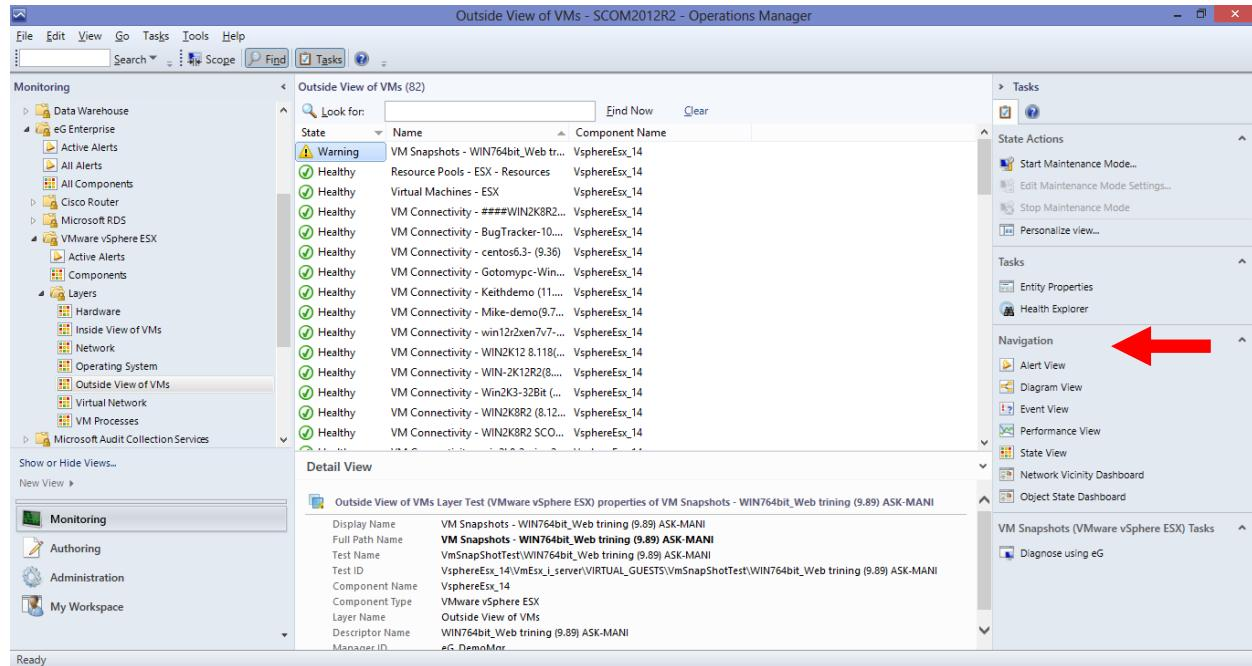
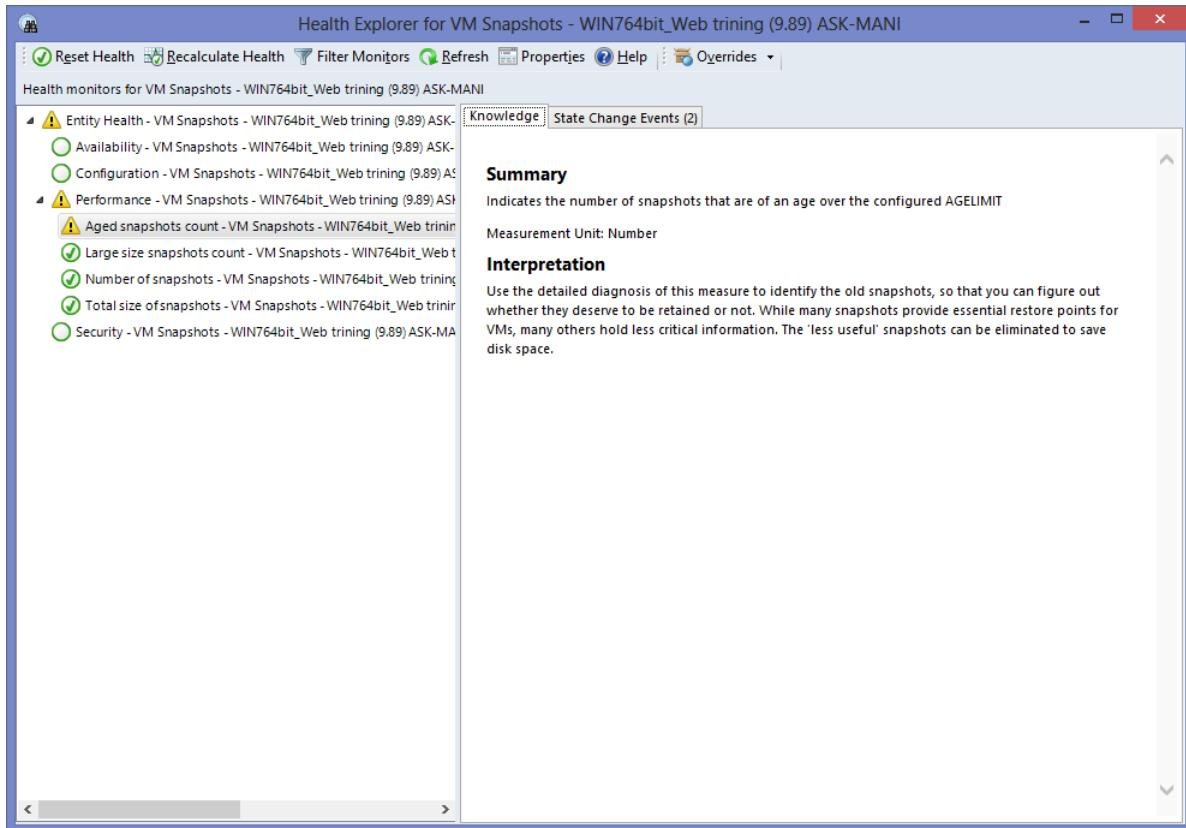

Figure 3.20: Clicking on the Health Explorer option of a test mapped to a particular layer
Figure 3.21: Health explorer for the VM Snapshots test mapped to the OutsideView of VMs layer of a VMware vSphere ESX server
2. Figure 3.21 will then appear. As you can see, in the left panel of Figure 3.21, all the measures of the **VM Snapshots** test (that we had earlier selected from the SCOM console of Figure 3.20) are grouped under the **Performance** node (i.e., category) as monitors. From the left panel, we can clearly infer that the **Warning** on the **VM Snapshots** test is owing to a **Warning** alert on the **Aged snapshots count** measure of the test.